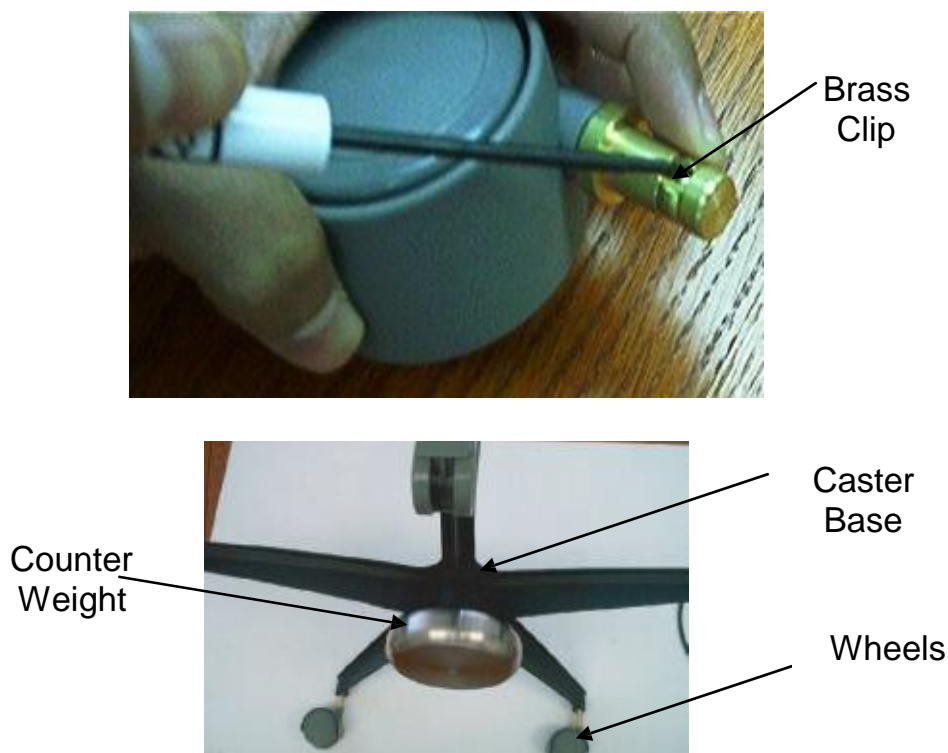

Figure 1. Installing counter weight to the caster base
1. Snap in five wheels onto caster base. It may be necessary to expand the brass clip with a screwdriver to fit the wheel in caster base (See figure 1). Take 5/16 -18 bolt (provided) and position bolt up through the weight and bottom of caster base. Attach caster base and weight to pole by threading screw into the bottom of the pole. Ensure that the weight, caster and vertical pole are attached properly.